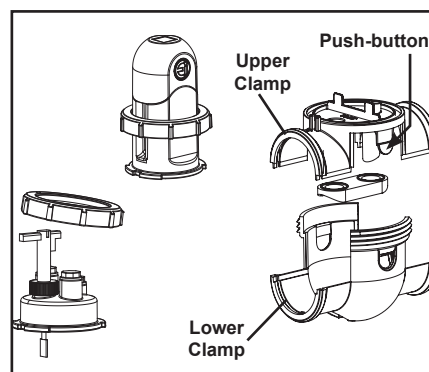

Figure 6. Disassemble the Cell and Pod
4. Unscrew the locking ring from the cell and the pod in order to extract them from the lower clamp (see Figure 6).
5. Press the two (2) push-buttons on either side of the upper clamp to separate the upper clamp from the lower clamp (see Figure 6).